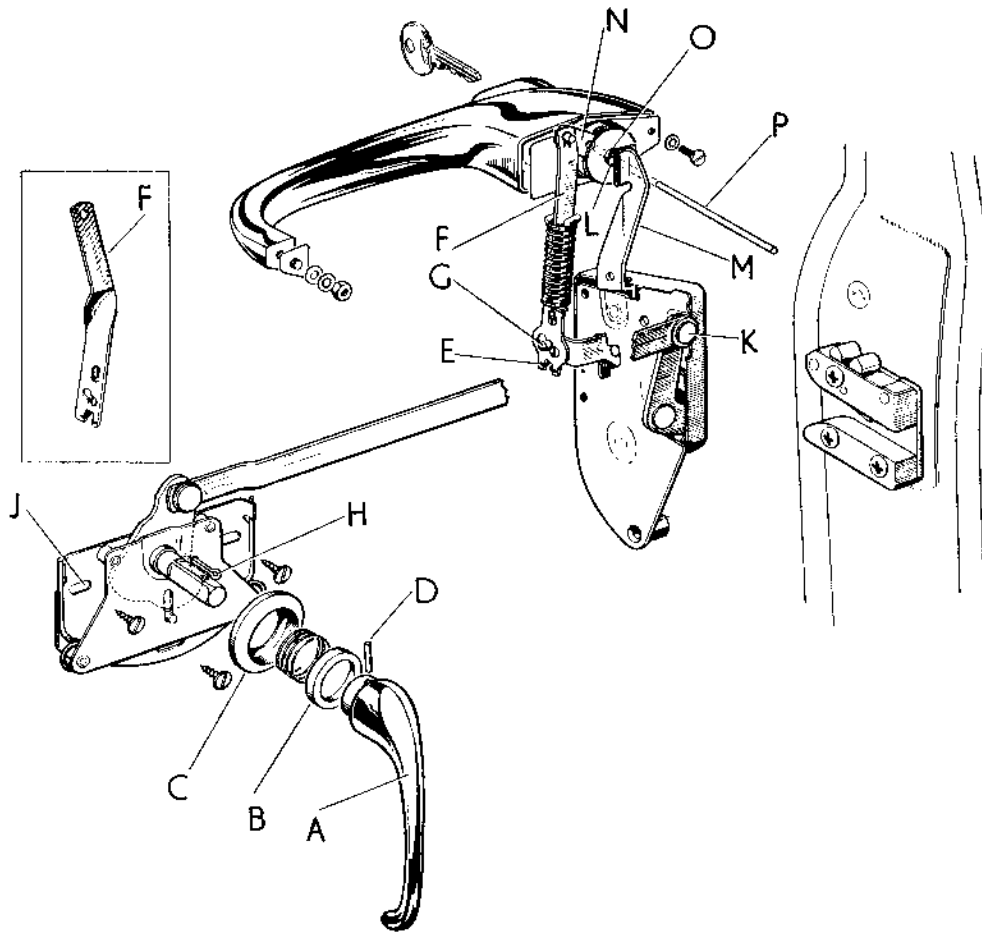

Fig. 32. Showing the door lock mechanism.
At first the lock and remote control units should be loosely fitted to the door. Note: On rear remote control units a shorter screw is fitted in the foremost elongated hole (J, Fig. 32.) The four cross headed type screws holding the lock unit should be tightened first, then the remote control unit aligned by sliding its elongated holes as far as possible towards the lock unit. The operating lever (K) will then be in contact with the lock case as illustrated. Finally, tighten down the three securing screws.